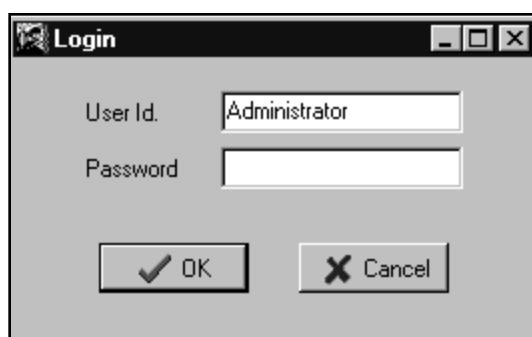

FIGURE XI-1
2. Under the File menu select Security. The Login screen will be displayed. See Figure XI-1.